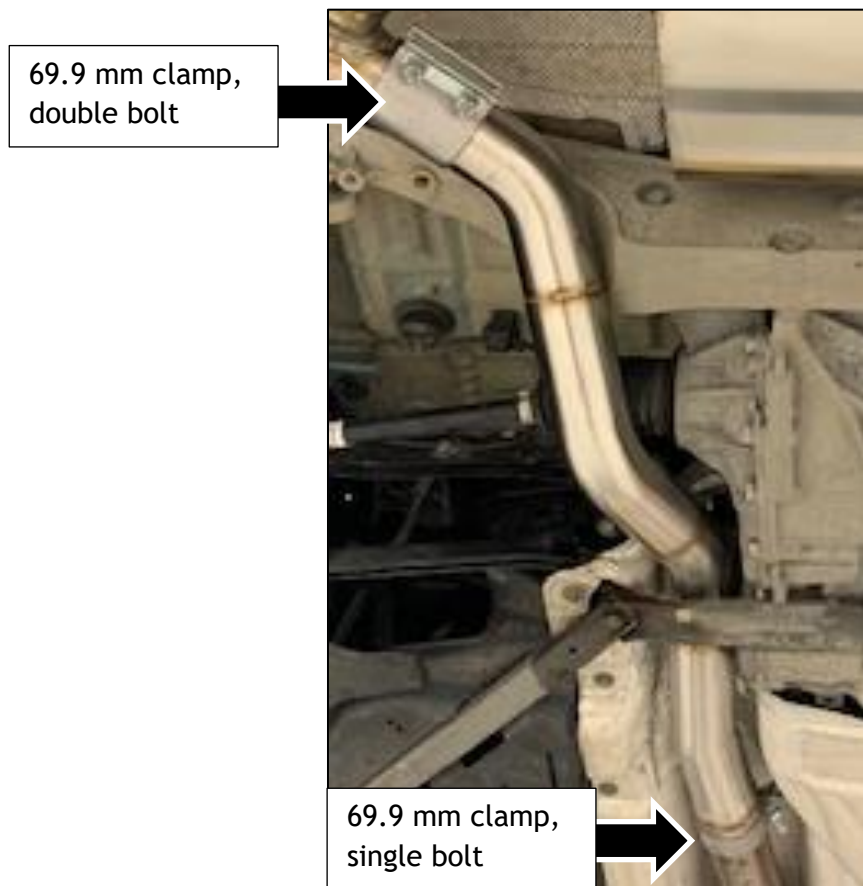

Figure 7: Inlet Tube
Refer to Figure 7 below for installation.
- 2) Ensure the bolt is facing down as shown in Figure 7.